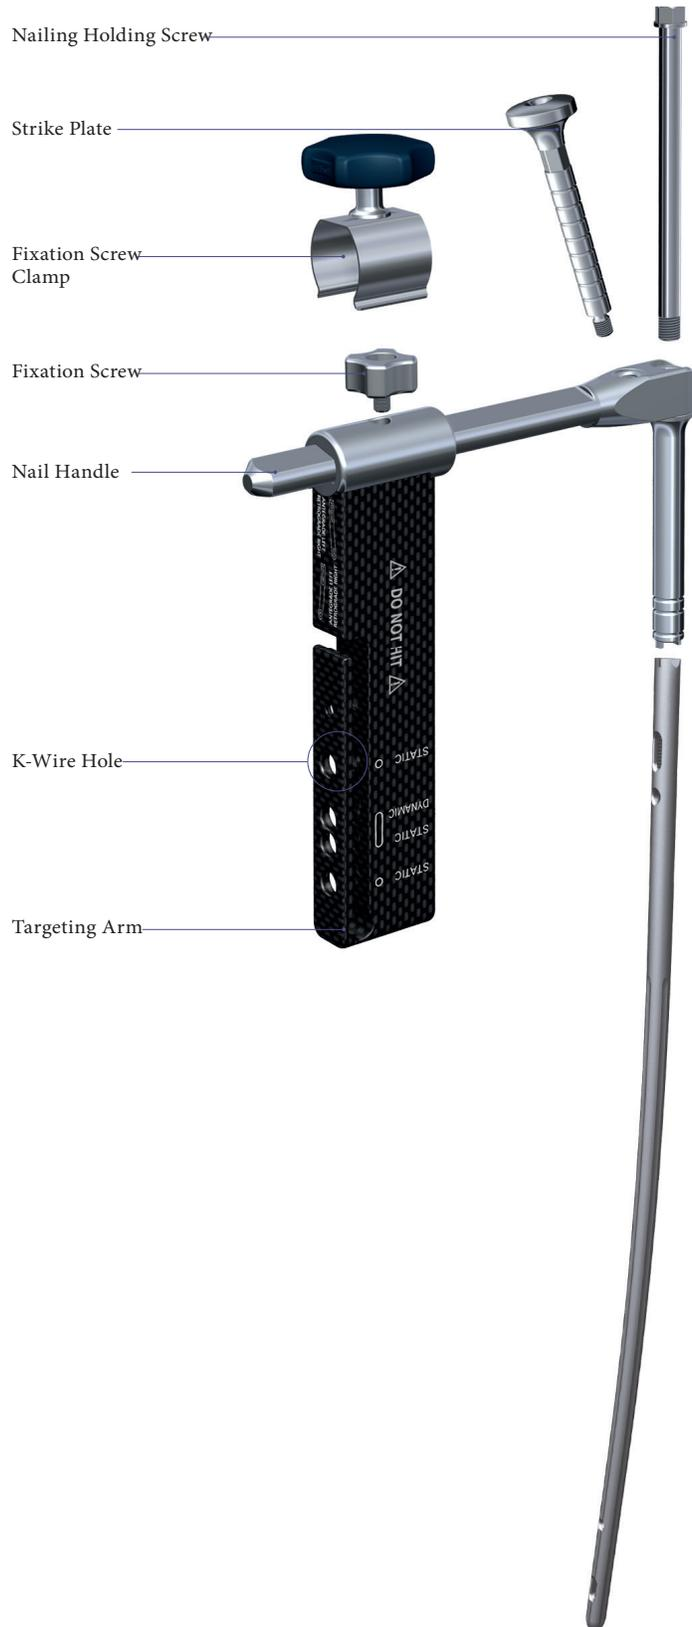

Fig. 1
The selected nail is assembled onto the Target Device (1806-1005) with the Femoral Holding Screw (1806-0165) (Fig. 1). Tighten the Nail Holding Screw with the Universal Socket Wrench (1806-0400) securely so that it does not loosen during nail insertion.
- Additionally, the 3x285mm K-Wire may be inserted through the Target Device which indicates the junction of the nail and insertion post (see Fig. 1).